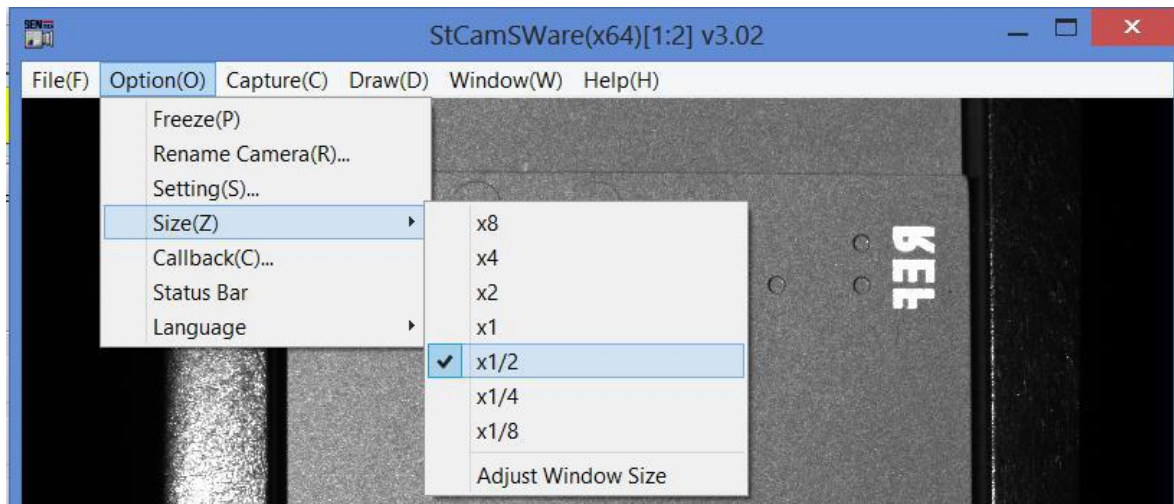

Figure 41 StCamSware Frame Size Setting
39. Next, Go to StCamSware; go to Option -> Size, Select “x ½” as below Figure 41.